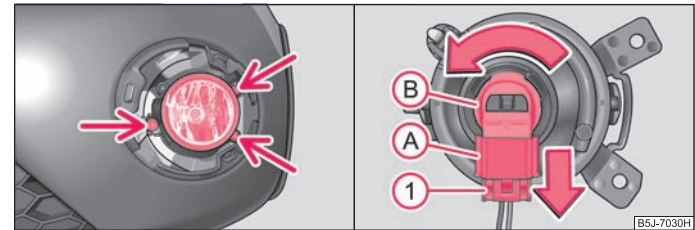

Fig. 173 Front bumper: Fog lights / changing the bulb
- Screw out the screws ⇒ fig. 173 - left with the aid of the screwdriver*, which is part of the vehicle tool kit¹⁶⁾.
- Press the locking button (1) ⇒ fig. 173 of the plug (A) and remove the plug from the socket (B).
- Turn the socket (B) with the bulb to the left up to the stop and take it out.